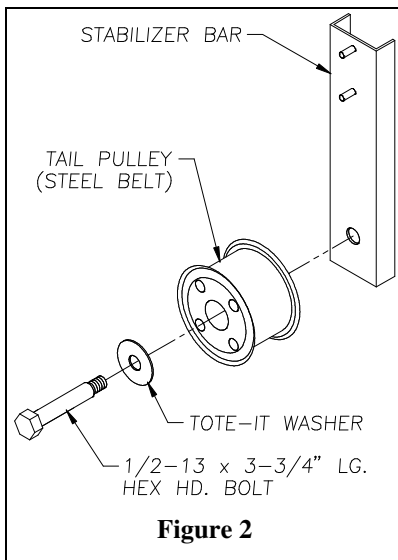
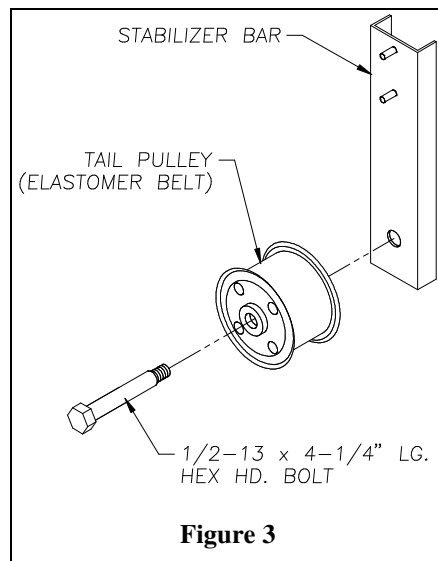

Figure 2
Figure 3
Step 3. Install bottom tail pulley on stabilizer bar. See figure 2 when a steel belt is used. See figure 3 when an Elastomer belt is used.